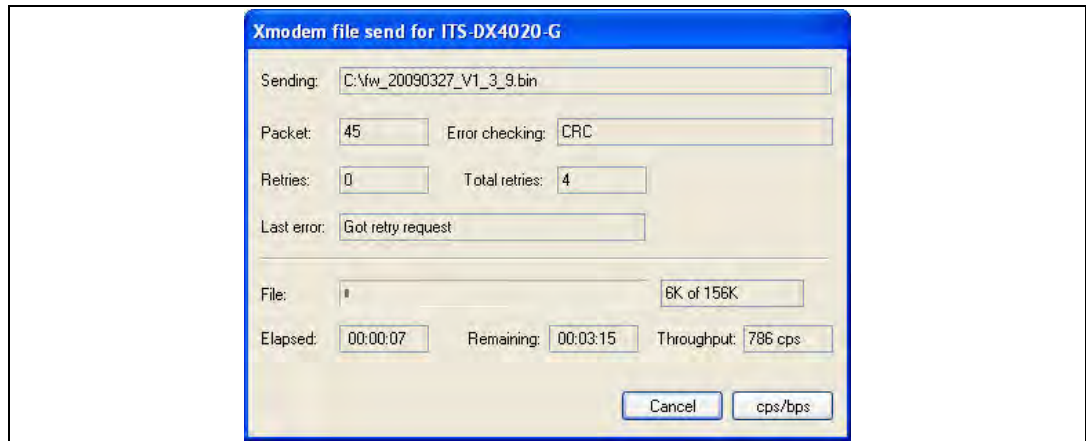

Figure 6.3 Xmodem File Send Progress Dialog Box
13. Click **Send** to start the firmware upgrade. The **Xmodem file send for ITS-DX4020-G** dialog box opens and indicates the upgrade progress. Refer to *Figure 6.3, Page 38*.